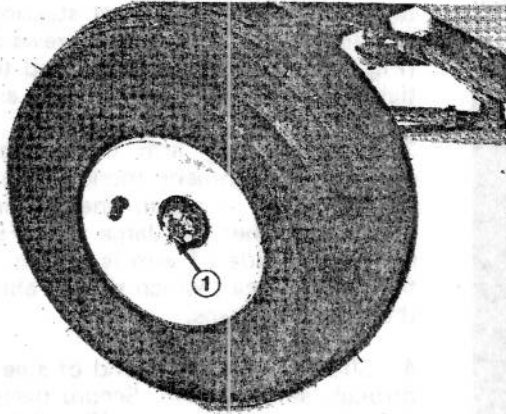

Figure 47
3. Rotate the wheel by hand and tighten the slotted nut (Fig. 47) until the bearing binds slightly. Then, loosen nut until the nearest slot and hole in spindle line up. Reinstall the cotter pin to retain the slotted nut in place.